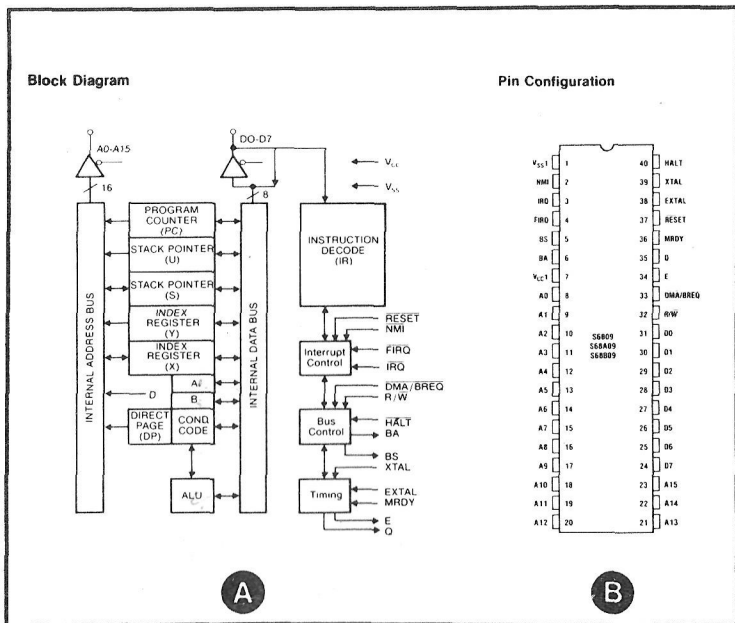

Fig. 1-7. (A) Block diagram. (B) Pin configuration (courtesy of American Microsystems, Inc. and Motorola Semiconductor Products Inc.).
Power (V_{ss} V_{cc}) Pins 1 And 7. Two pins are used to supply power to the part: V_{ss} is ground, or 0 volts, while V_{cc} is +5V with a 5% tolerance. This holds true whether the device is of the internal or external clock variety (Fig. 1-7).
Address Bus ($A_0 - A_{15}$) Pins 8-23. Sixteen pins are used to output address information from the MPU onto the address bus. When the processor does not require the bus, for a data transfer, it will output address $FFFF_{16}$, $R/\overline{W} = 1$ and $BS = 0$ (Table 1-3). Addresses are valid on the rising edge of Q. All address bus drivers are made high-impedance when output *Bus Available (BA)* is high. Each pin will drive one Schottky TTL load and typically 90pF (Fig. 1-7).
Data Bus ($D_0 - D_7$) (Pins 24-31). The eight pins, designated for data, provide communication with the system bidirectional data bus. Each pin will drive one Schottky TTL load and typically 130pF (Fig. 1-7).